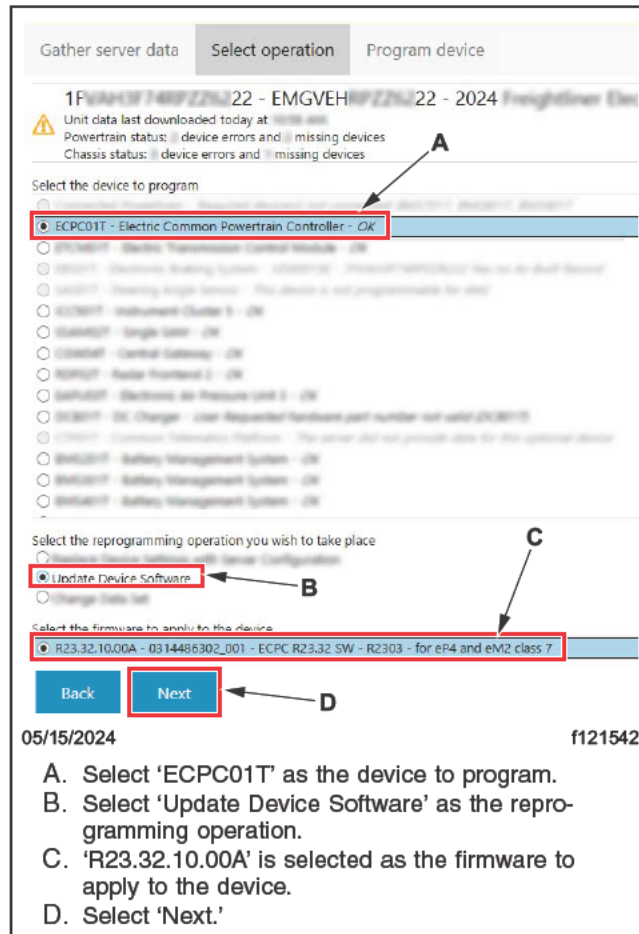

Fig. 25, Selecting the Operation to Update the ECPC01T Device Software
- 10.1 Select 'ECPC01T' as the device to program. See Fig. 25.
- 10.2 Select 'Update Device Software' as the reprogramming operation. See Fig. 25.
- 10.3 'R23.32.10.00A' is selected as the firmware to apply to the device. Select 'Next.' See Fig. 25.